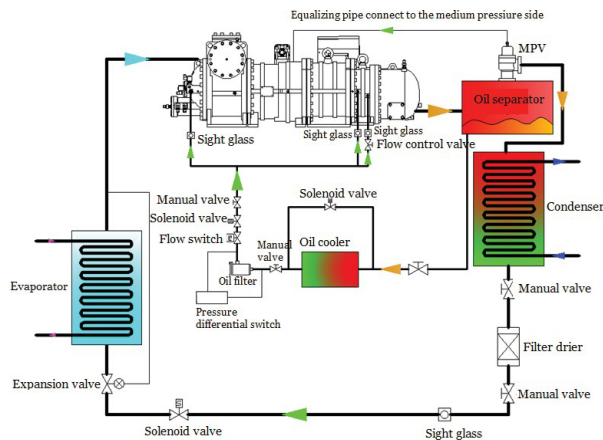

Figure 5-7. Basic Oil Circuit System
*Note = Refer to Figure 5-7 for the layout of oil filter and pressure difference switch.
*Note: Refer to Figure 5-7 for oil flow switch installation